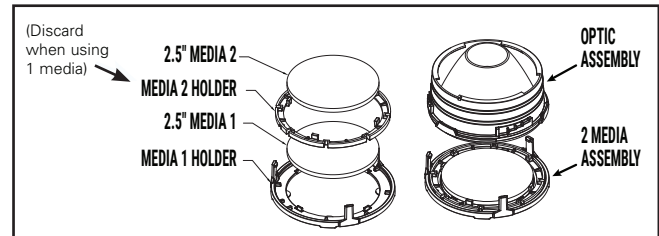

Figure 17
3. Insert media into the holder, if using only one media discard the second media holder ring. (Figure 17)